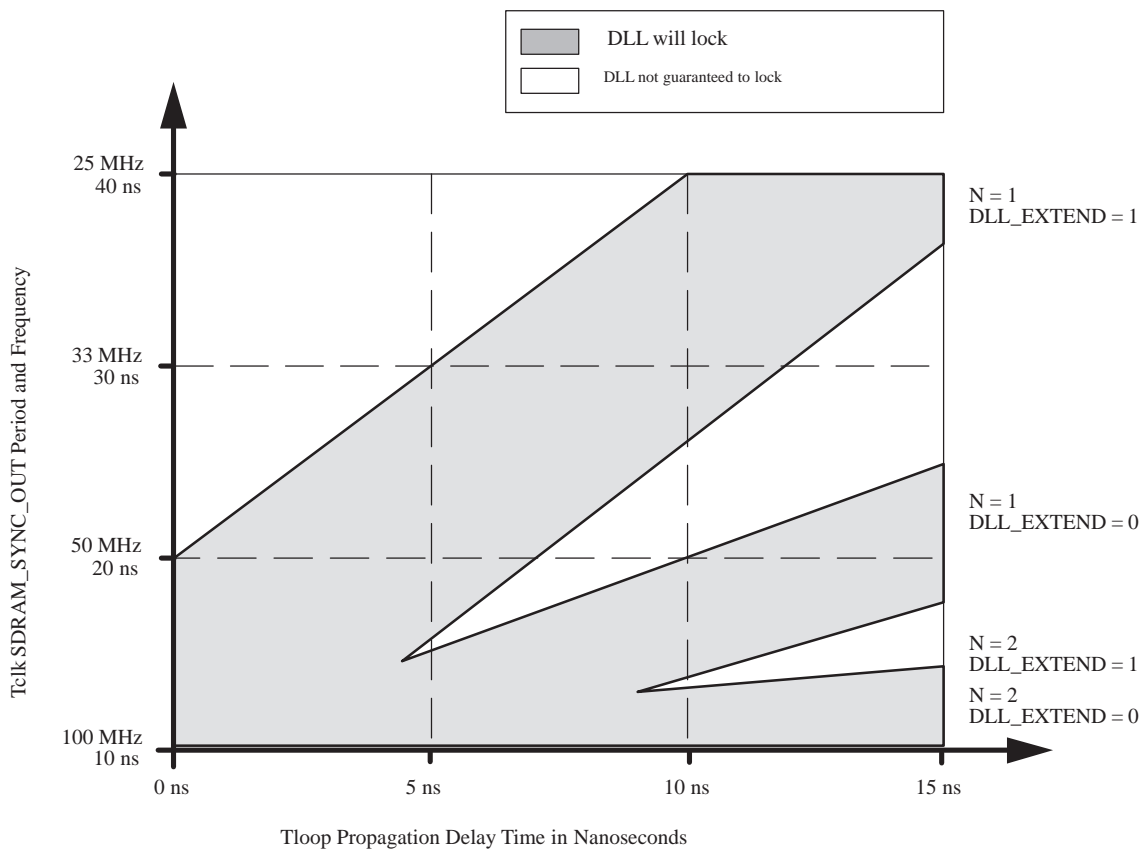

Figure 9: DLL Locking Range Loop Delay vs. Frequency of Operation
- 7 DLL_EXTEND is bit 7 of the PMC2 register <72>. N is a non-zero integer (1, 2, 3, ...). T_{clk} is the period of one SDRAM_SYNC_OUT clock cycle in ns. t_{loop} is the propagation delay of the DLL synchronization feedback loop (PC board runner) from SDRAM_SYNC_OUT to SDRAM_SYNC_IN in ns; 6.25 inches of loop length (unloaded PC board runner) corresponds to approximately 1 ns of delay. t_{fix0} is a fixed delay inherent in the design when the DLL is at tap point 0 and the DLL is contributing no delay; t_{fix0} equals approximately 3 ns. See Figure 9 for DLL locking ranges.